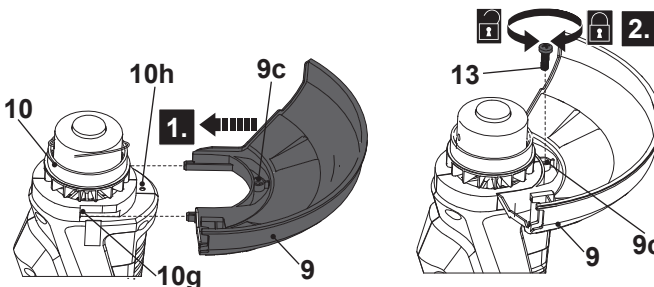

Fig. 3
1. Turn the trimmer head (10) upside down.
2. Align and slide the guard (9) onto the sliding slots (10g) of the trimmer head (10) (Fig. 3, step 1). Fully insert the guard (9) and make sure that the screw holes (9c, 10h) are well aligned.
3. Secure the guard (9) with the screw (13) in clockwise (Fig. 3, step 2).